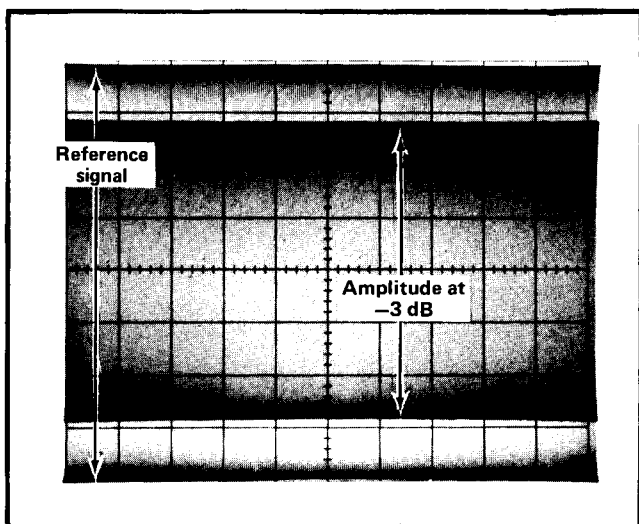

Fig. 5-4. Typical CRT displays (double exposure) when checking amplifier frequency response.
c. Set the constant-amplitude sine-wave generator for eight vertical divisions of 200-kilohertz display as a reference. Then slowly increase the frequency until the display amplitude is 5.66 divisions (see Fig. 5-4). This is the upper -3 dB point.